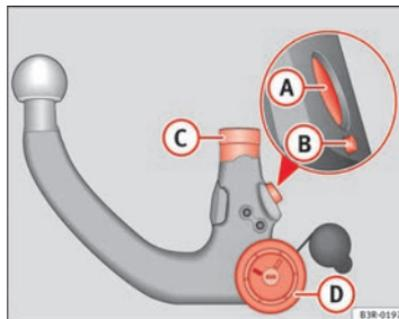

Fig. 157 Removable towing bracket: Ball joint
- Check the locking pin ①, release pin ②, shaft section ③ and knob ④ ⇒ Fig. 157 on the ball joint to make sure they are clean and undamaged. ▶